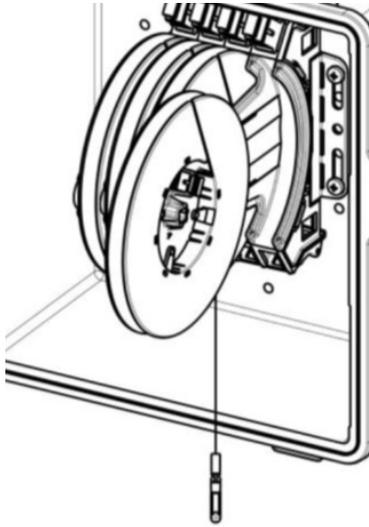
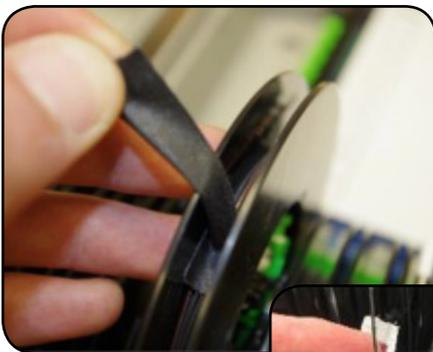

Figure 1
Figure 2
1. Mount Drop Wheel cradle into appropriate mounting holes (previous page), mounting the block of Drop Wheels with the fiber termination ports oriented at the top of the Drop Wheel cradle as shown in **(Figure 1)**.
2. Pull/extend desired wheel forward **(Figure 1)**, carefully remove tape holding the fiber in place **(Figure 2)**.